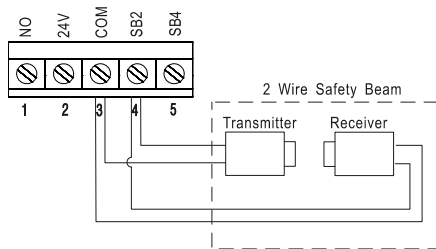

Fig. 12
- Genuine 2 wire Safety Beams (Fig.12)